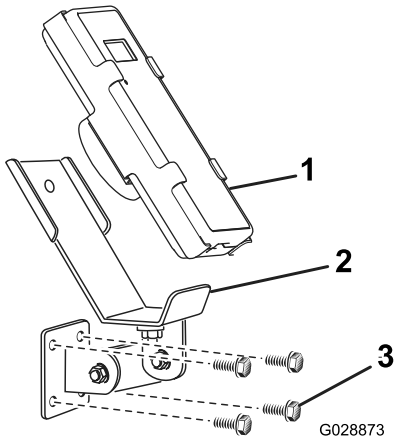
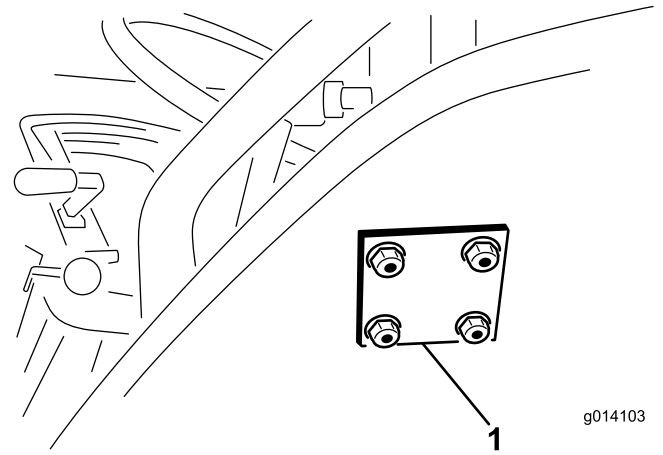

Figure 10
Figure 11
3. Attach the mounting bracket and backing plate with 4 flange head bolts (5/16 x 1-1/2 inch) and flange locknuts (Figure 10 and Figure 11).